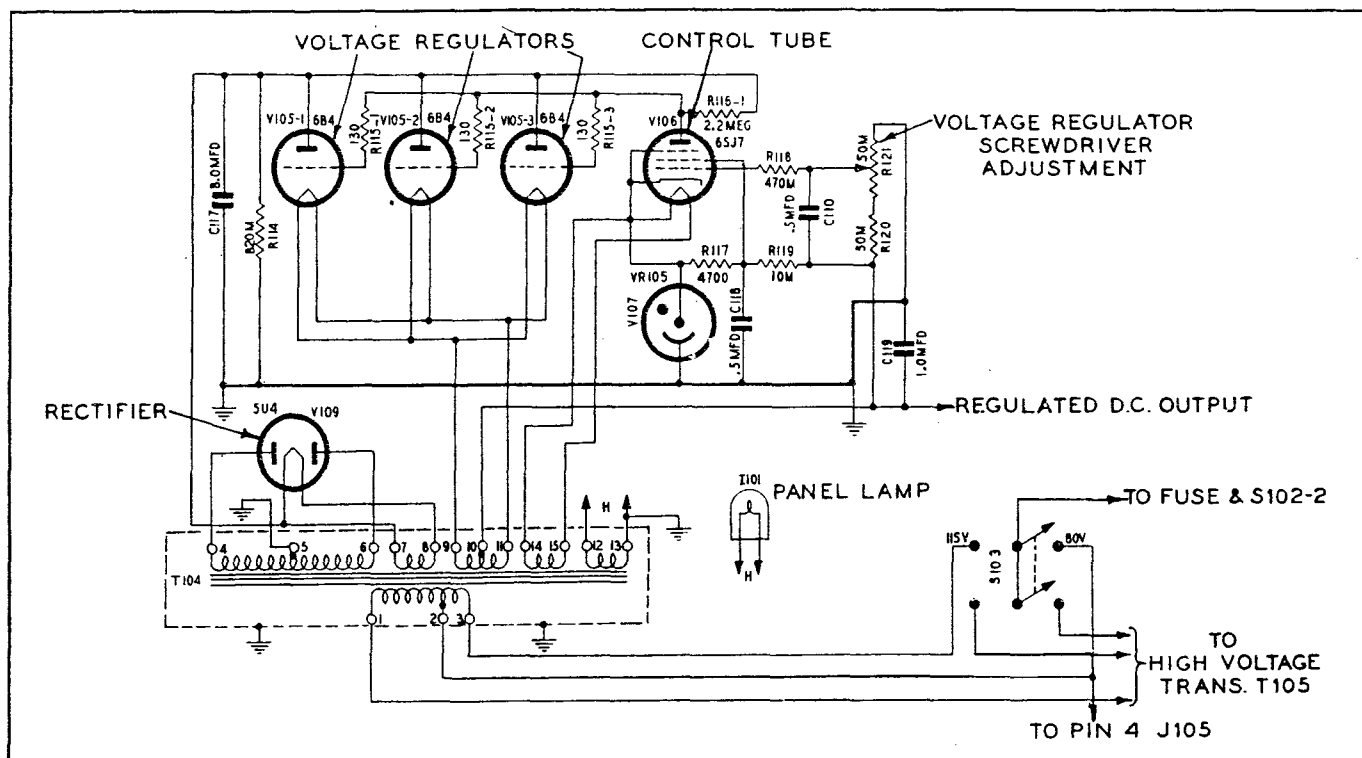

Figure 4-9. Regulated Power Supply
(2) REGULATED POWER SUPPLY.—The low voltage power supply for Radio Set ★AN/APN-4 included in Radio Receiver ★R-9/APN-4 (see fig. 4-9) is a voltage-regulated power supply of the electronic type. Three triodes, V-105-1, V-105-2, and V-105-3 are connected in parallel and the set of three is connected in series with the rectifier output. The plates of these tubes are connected directly to the filament of the power rectifier tube V-109. Although the three voltage regulator tubes are connected in parallel, resistors R-115-1, R-115-2, and R-115-3 are connected as isolating resistors between the grids and the grid bias lead to prevent undesirable coupling which might cause the parallel connected triodes to oscillate.